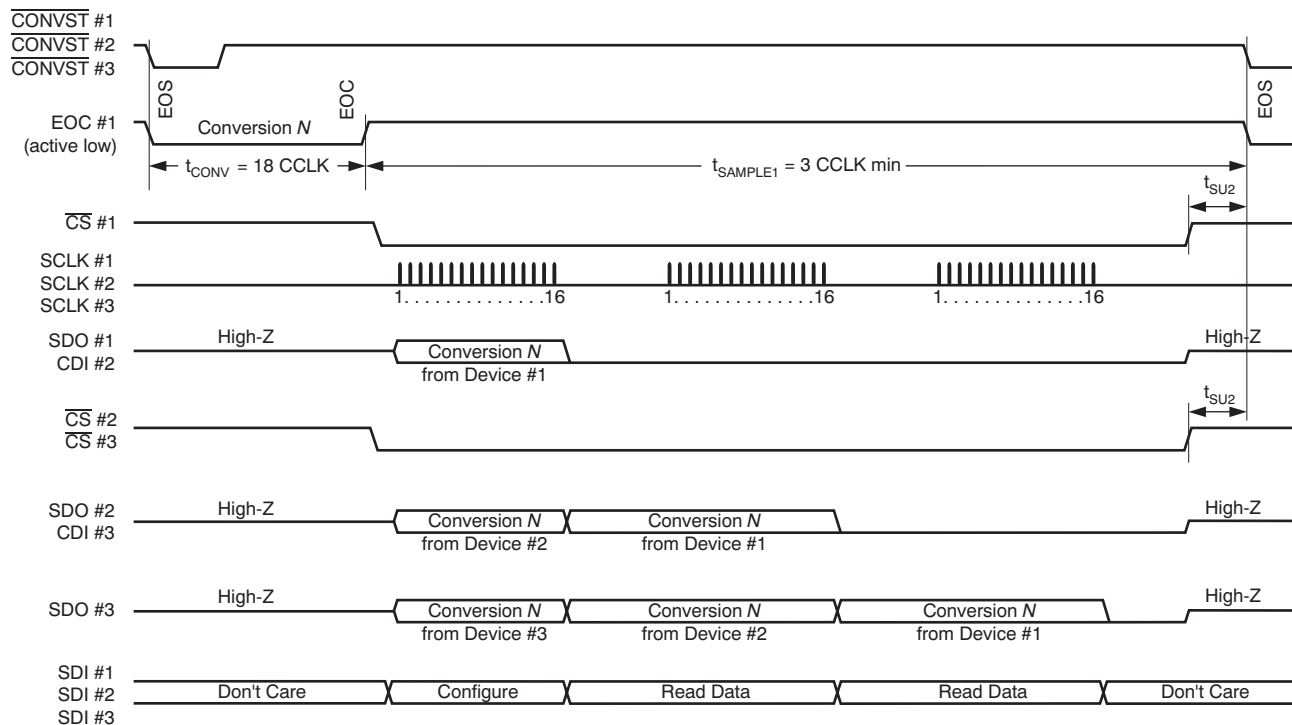

**Figure 47. Simplified Dasiy-Chain Mode Timing With Shared  $\overline{CONVST}$  and Continuous  $\overline{CS}$**
When multiple converters are used in daisy-chain mode, the first converter is configured in regular mode while the rest of the converters downstream are configured in daisy-chain mode. When a converter is configured in daisy-chain mode, the CDI input data go straight to the output register. Therefore, the serial input data passes through the converter with either a 16 SCLK (if the TAG feature is disabled) or 24-SCLK delay, as long as  $\overline{CS}$  is active. See Figure 47 for detailed timing. In this timing diagram, the conversion in each converter is performed simultaneously.
**Case 1:** If chip select is not toggled ( $\overline{CS}$  stays low), the next 16 bits of data are from the upstream converter, and so on. This configuration is shown in Figure 47.